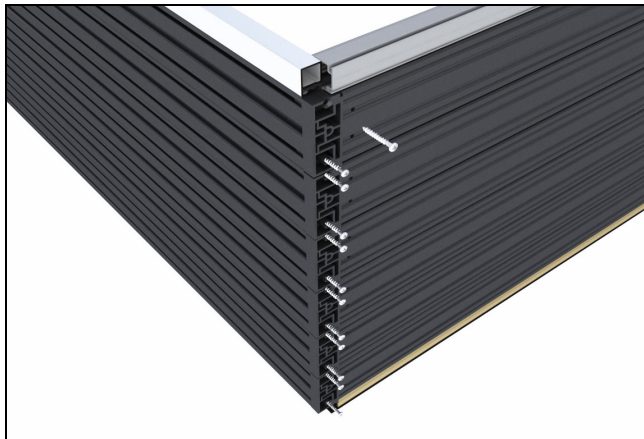

Figure 76
5. Align side jamb to sill by sliding corner keys into sill. Fasten side jamb and sill through corner keys using two #8 x 1 3/4" pan head screws per key. See figure 76.